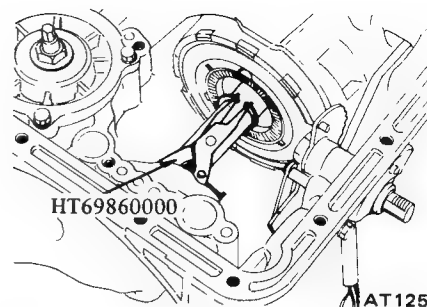

Fig. AT-59 Removing snap ring
12. With the aid of Snap Ring Plier HT69860000, pry snap ring off output shaft. See Figure AT-59.